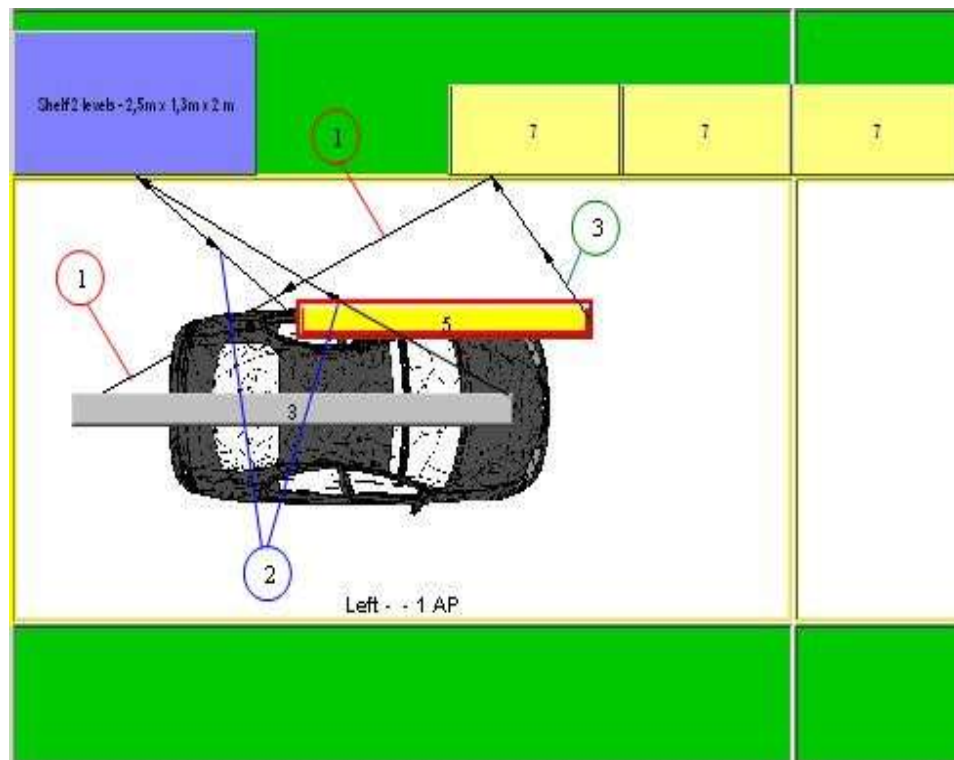

Figure 276: Option is not Activated in all Parts Bins
- An employee fetches the parts for processes in work from the marked parts bin. Please refer to the Figure 276.